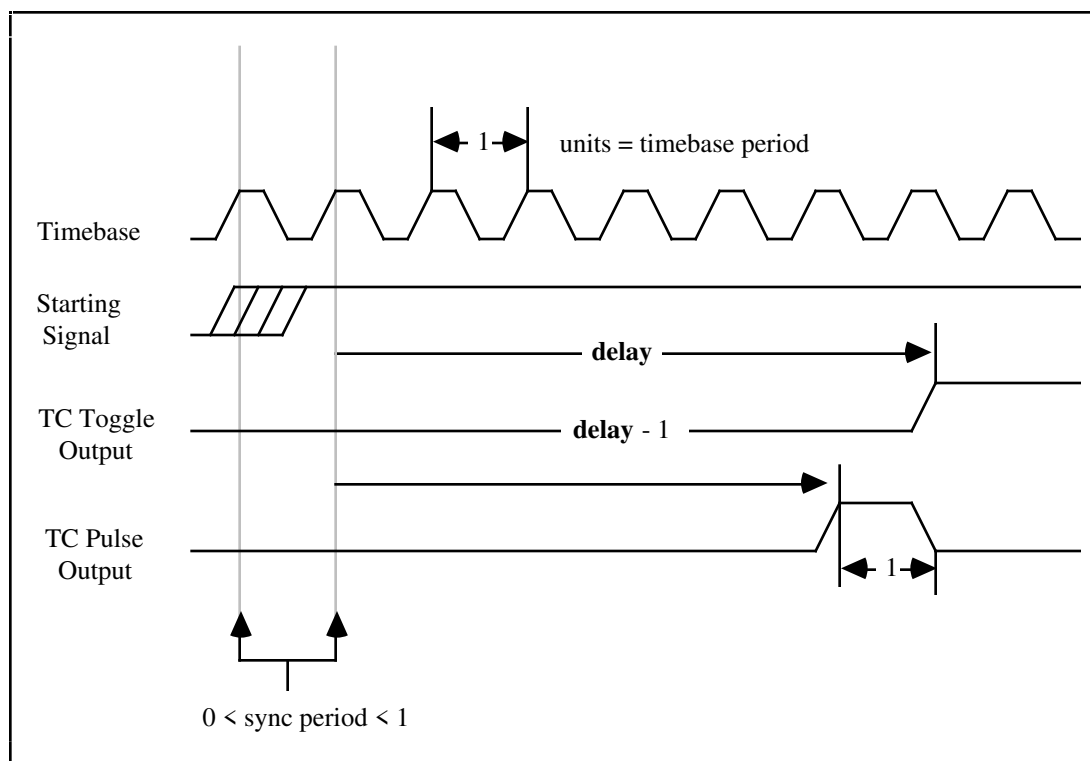

Figure 8-9. Pulse Timing for pulse\_width = 0
**pulseWidth** = 0 generates a special case signal as shown in Figure 8-9.